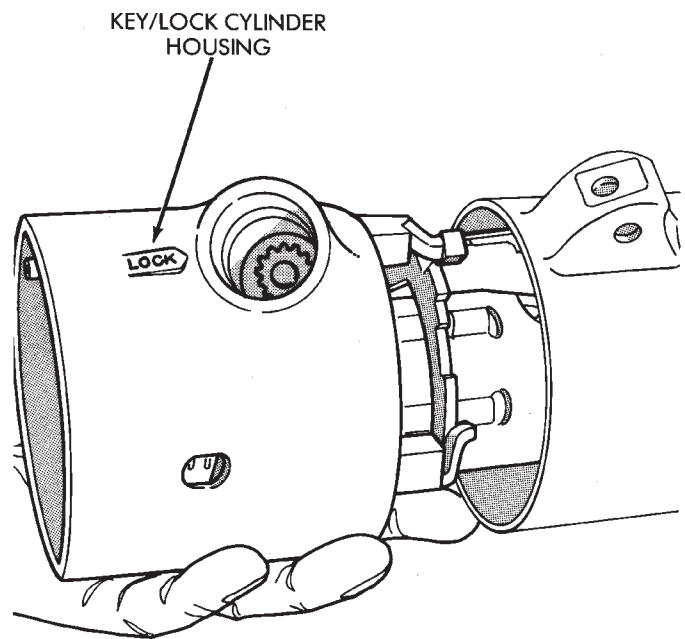

Fig. 9 Key/lock Cylinder Housing
- (1) Remove the gear selector lever upper pivot pin and the selector lever.
- (2) Remove the upper bearing thrust washer.
- (3) Remove the four screws that attach the key/lock cylinder housing to the steering column jacket. Remove the housing (Fig. 9).